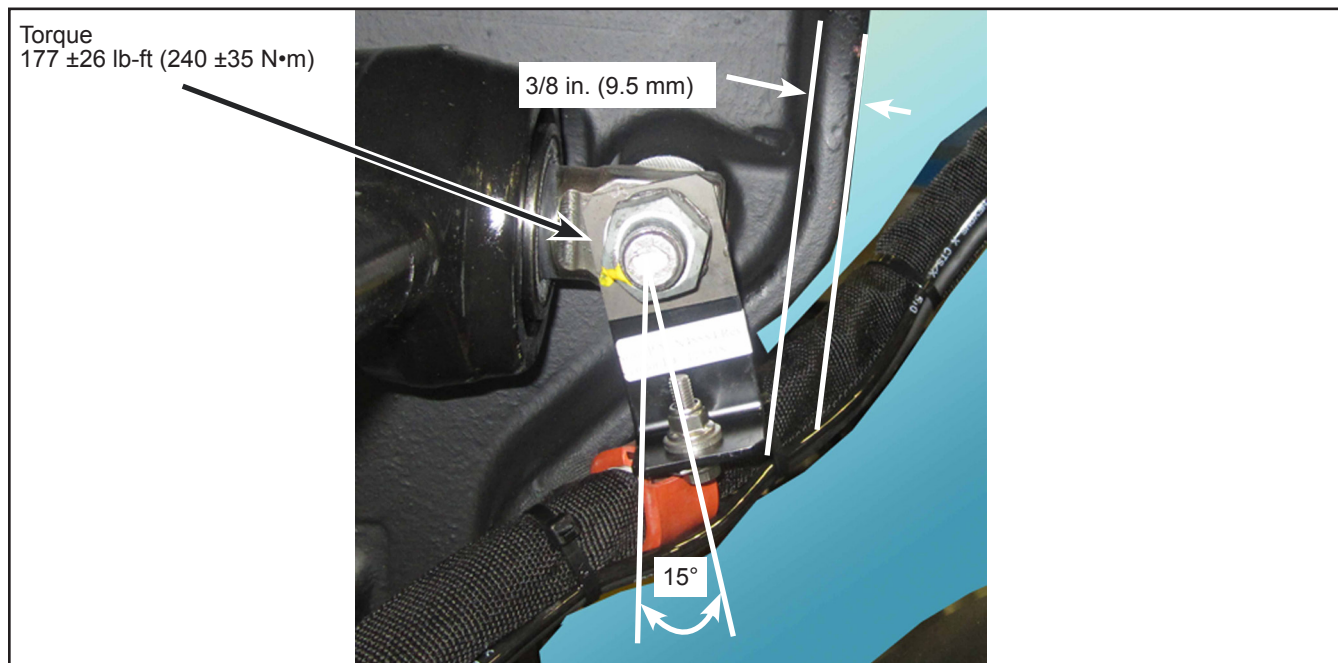

Figure 7 - L Support Position
- 2.7. Position the L support at an approximate angle of 15° to the exterior of the vehicle. As a reference, the distance between the vertical axle wall and the L support corner should be about 3/8 in. (9.5 mm). See Figure 7.
- 2.8. Tighten the tie rod nut holding the L support to the torque specified in Figure 7.